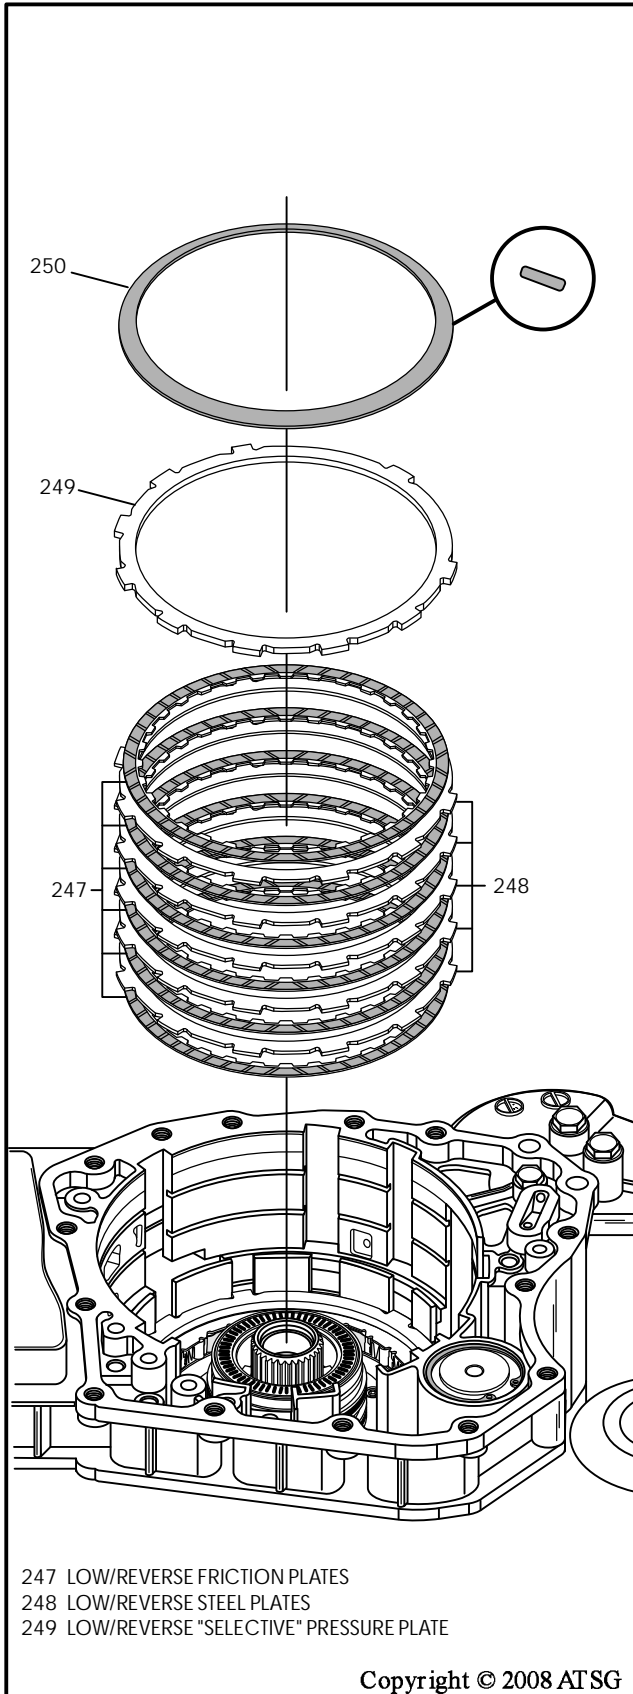

Figure 189
5. Install the low/reverse clutch plates beginning with a friction plate on top of the backing plate and alternating with steel plates, as shown in Figure 189.
6. Install the low/reverse clutch selective pressure plate, as shown in Figure 189.
7. Install the low/reverse clutch "cone" cushion plate, as shown in Figure 189, so that outside diameter is resting on pressure plate.